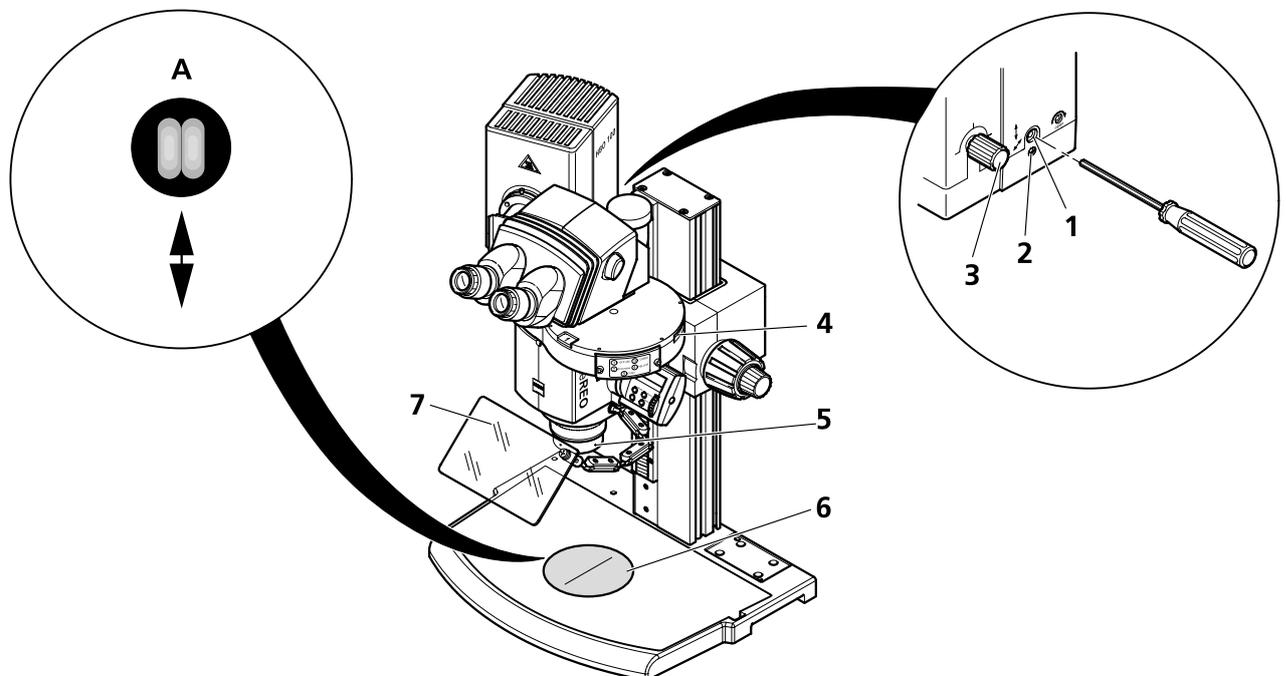

Fig. 43 Adjusting the HBO 100 illuminator
When working with UV light, always swing in the fluorescence protection screen (dazzle protector, Fig. 43/7) in front of the specimen to protect your eyes from scattered light.
4. Turn the filter wheel (Fig. 43/4) of the vertical illuminator to move a filter position into the light path.
When working with the filter block 58, ultraviolet radiation is incident on the object surface. Strictly avoid direct exposure to the skin. Take appropriate precautions when manipulating in the object plane (e.g. use of gliding stage, gloves, UV protection cream, etc.). Make sure to swing down the fluorescence screen (dazzle protector, Fig. 43/7) again after every change of the objective!
- Remove the specimen and put the adjustment circle,  $d = 120$  mm (Fig. 43/6), onto the stage (see page 108 for a description of the adjustment circle).
- Holding the objective (Fig. 43/5) safely **with both hands**, unscrew it from the microscope body or the objective nosepiece.
- Turn the collector knob (Fig. 43/3) on the HBO 100 until a focused image of the lamp arc/reflected image appears on the adjustment circle.
- Turn the screw for vertical adjustment (Fig. 43/1) until the lamp arc and its reflected image appear at the same level (Fig. 43/A).
- Turn the screw for horizontal adjustment (Fig. 43/2) in such a way that lamp arc and its reflected image appear, if possible, on both sides of the vertical line at the same level (Fig. 43/A).
- Holding the objective (Fig. 43/5) with both hands, turn it into the microscope body or the objective nosepiece.
- Turn the collector knob (Fig. 43/3) to adjust homogeneous illumination.
- Remove the adjustment circle (Fig. 43/6) and put the fluorescence specimen onto the stage.